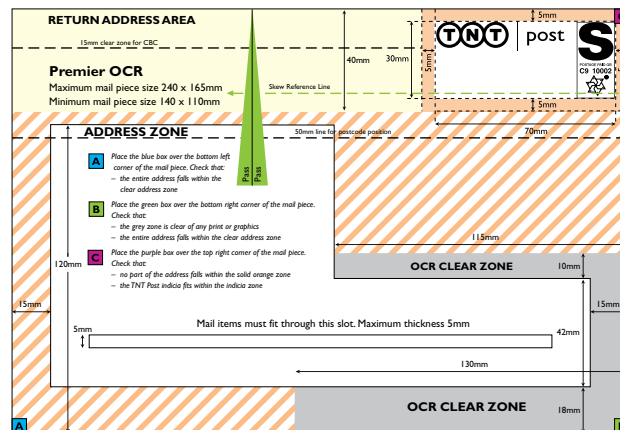

Fig.2
- The address window, indicia and artwork fall within the template shown in Fig.2.